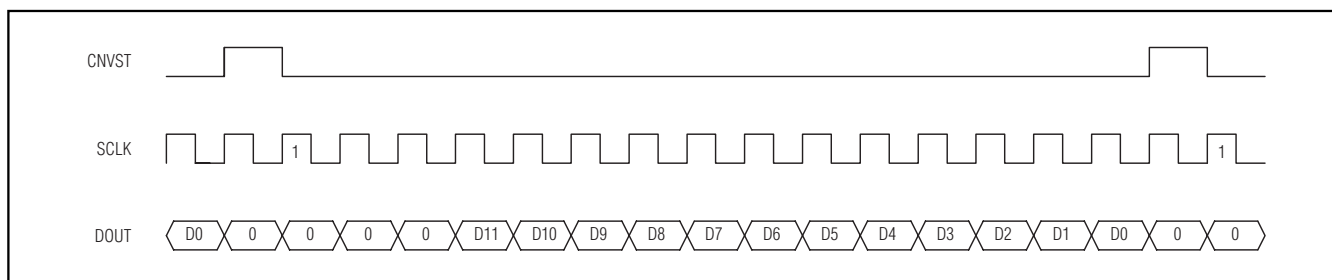

Figure 17. DSP Interface—Continuous Conversion
The MAX1276/MAX1278 can also be connected to the TMS320C54_ by using the data transmit (DX) pin to drive CNVST and the CLKX generated internally to drive SCLK. A pullup resistor is required on the CNVST signal to keep it high when DX goes high impedance and 0001hex should be written to the DXR continuously for continuous conversions. The power-down modes may be entered by writing 00FFhex to the DXR (see Figures 17 and 18).
and for an active-low frame (LTFS = 1, LRFS = 1) signal. This is also the best way to enter the power-down modes by setting the word length to 8 bits (SLEN = 1001). Connect the V_L pin to the ADSP21_... supply voltage when the MAX1276/MAX1278 are operating with a supply voltage higher than the DSP supply voltage (see Figures 17 and 18).